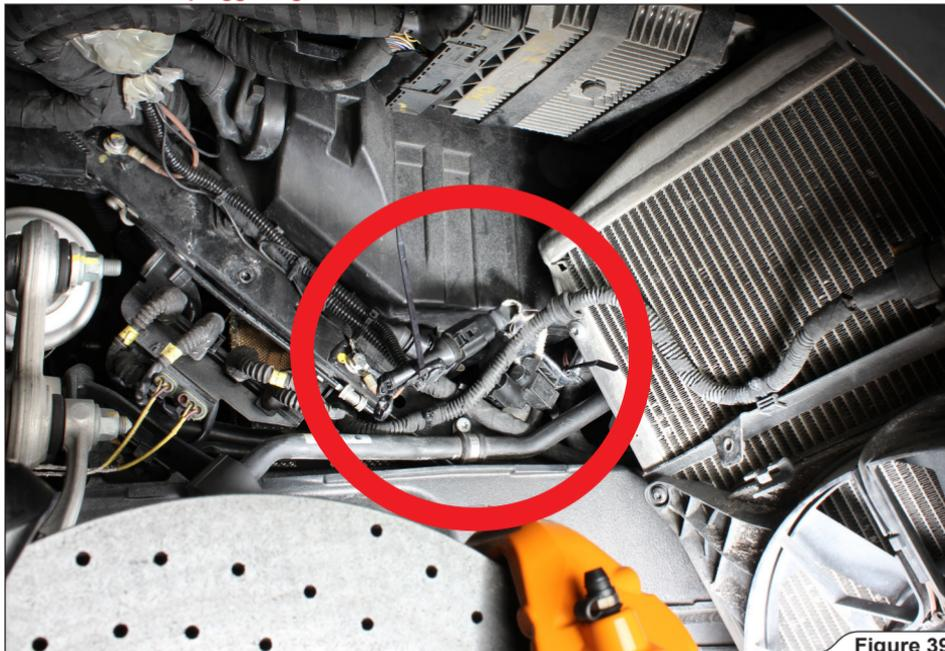

Figure 39
14. **Installation of Wireless Kit:** locate the stock switch over valve under the right wheel arch panel and pull it off the bracket. Disconnect the switch over valve's connector off the valve (**Figure 39**).